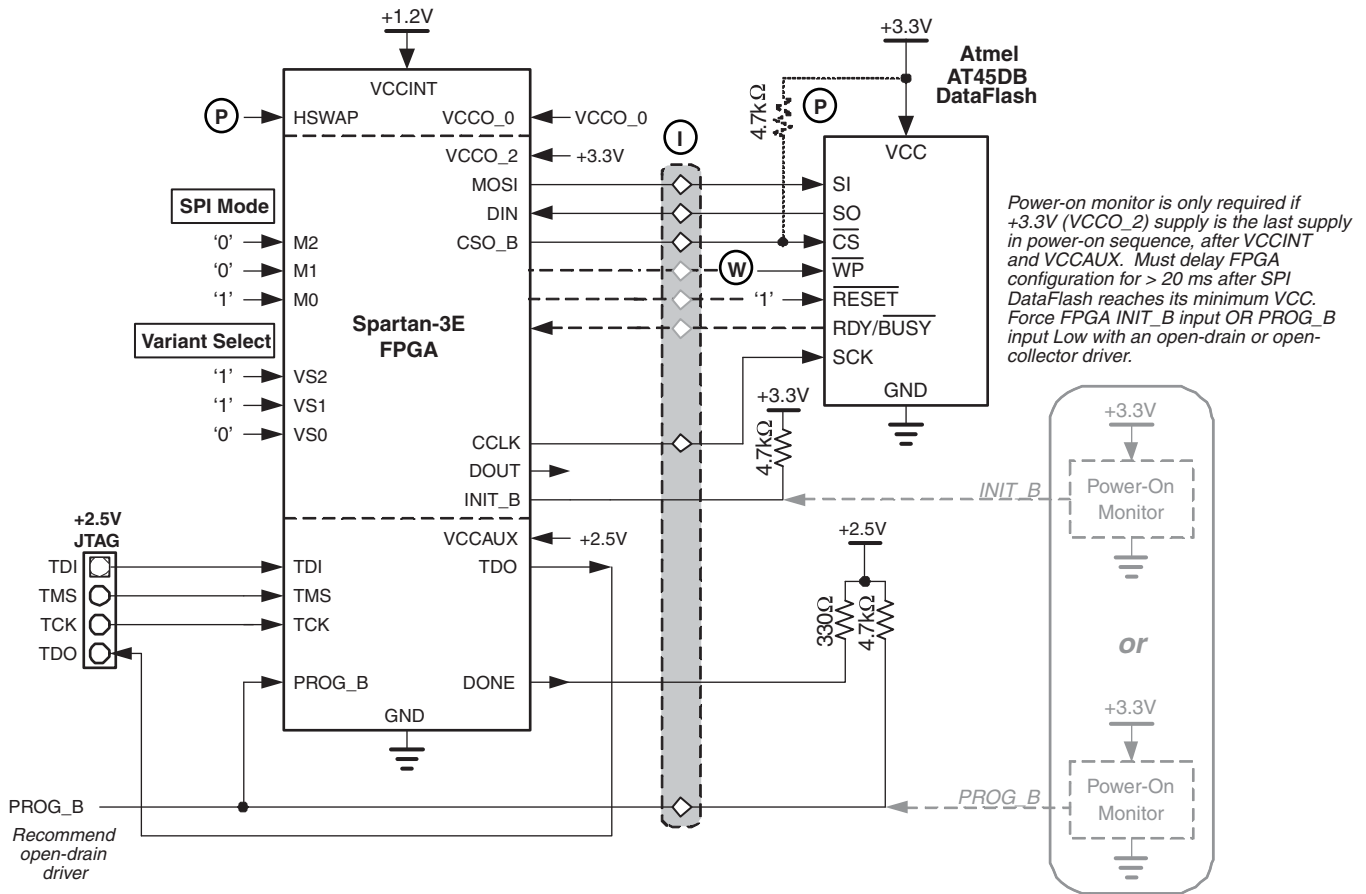

**Figure 54: Atmel SPI-based DataFlash Configuration Interface**
In SPI Serial Flash mode ( $M[2:0] = \langle 0:0:1 \rangle$ ), the Spartan-3E FPGA configures itself from an attached industry-standard SPI serial Flash PROM, as illustrated in Figure 53 and Figure 54. The FPGA supplies the CCLK output clock from its internal oscillator to the clock input of the attached SPI Flash PROM.
**Figure 54** shows the connection diagram for Atmel DataFlash serial PROMs, which also use an SPI-based protocol. ‘B’-series DataFlash devices are limited to FPGA applications operating over the commercial temperature range. Industrial temperature range applications must use ‘C’- or ‘D’-series DataFlash devices, which have a shorter DataFlash select setup time, because of the faster FPGA CCLK frequency at cold temperatures.
| 1      | 1   | 0   | READ ARRAY (0xE8)(see Figure 54) | 4           | Atmel Corporation                         | <a href="#">AT45DB DataFlash</a>(use only 'C' or 'D' Series for Industrial temperature range) | Yes                        |
| $\overline{\text{RESET}}$(see Figure 54)     | Only applicable to Atmel DataFlash. Not required for FPGA configuration but must be High during configuration. Optional connection to FPGA user I/O after configuration. Do not connect to FPGA's PROG_B as this will prevent direct programming of the DataFlash. | N/A                      | N/A                      | N/A                        | $\overline{\text{RESET}}$     |
| RDY/ $\overline{\text{BUSY}}$(see Figure 54) | Only applicable to Atmel DataFlash and only available on certain packages. Not required for FPGA configuration. Output from DataFlash PROM. Optional connection to FPGA user I/O after configuration.                                                              | N/A                      | N/A                      | N/A                        | RDY/ $\overline{\text{BUSY}}$ |
If the 3.3V supply is last in the sequence and does not ramp fast enough, or if the SPI Flash PROM cannot be ready when required by the FPGA, delay the FPGA configuration process by holding either the FPGA's PROG\_B input or INIT\_B input Low, as highlighted in Figure 54. Release the FPGA when the SPI Flash PROM is ready. For example, a simple R-C delay circuit attached to the INIT\_B pin forces the FPGA to wait for a preselected amount of time. Alternately, a Power Good signal from the 3.3V supply or a system reset signal accomplishes the same purpose. Use an open-drain or open-collector output when driving PROG\_B or INIT\_B.